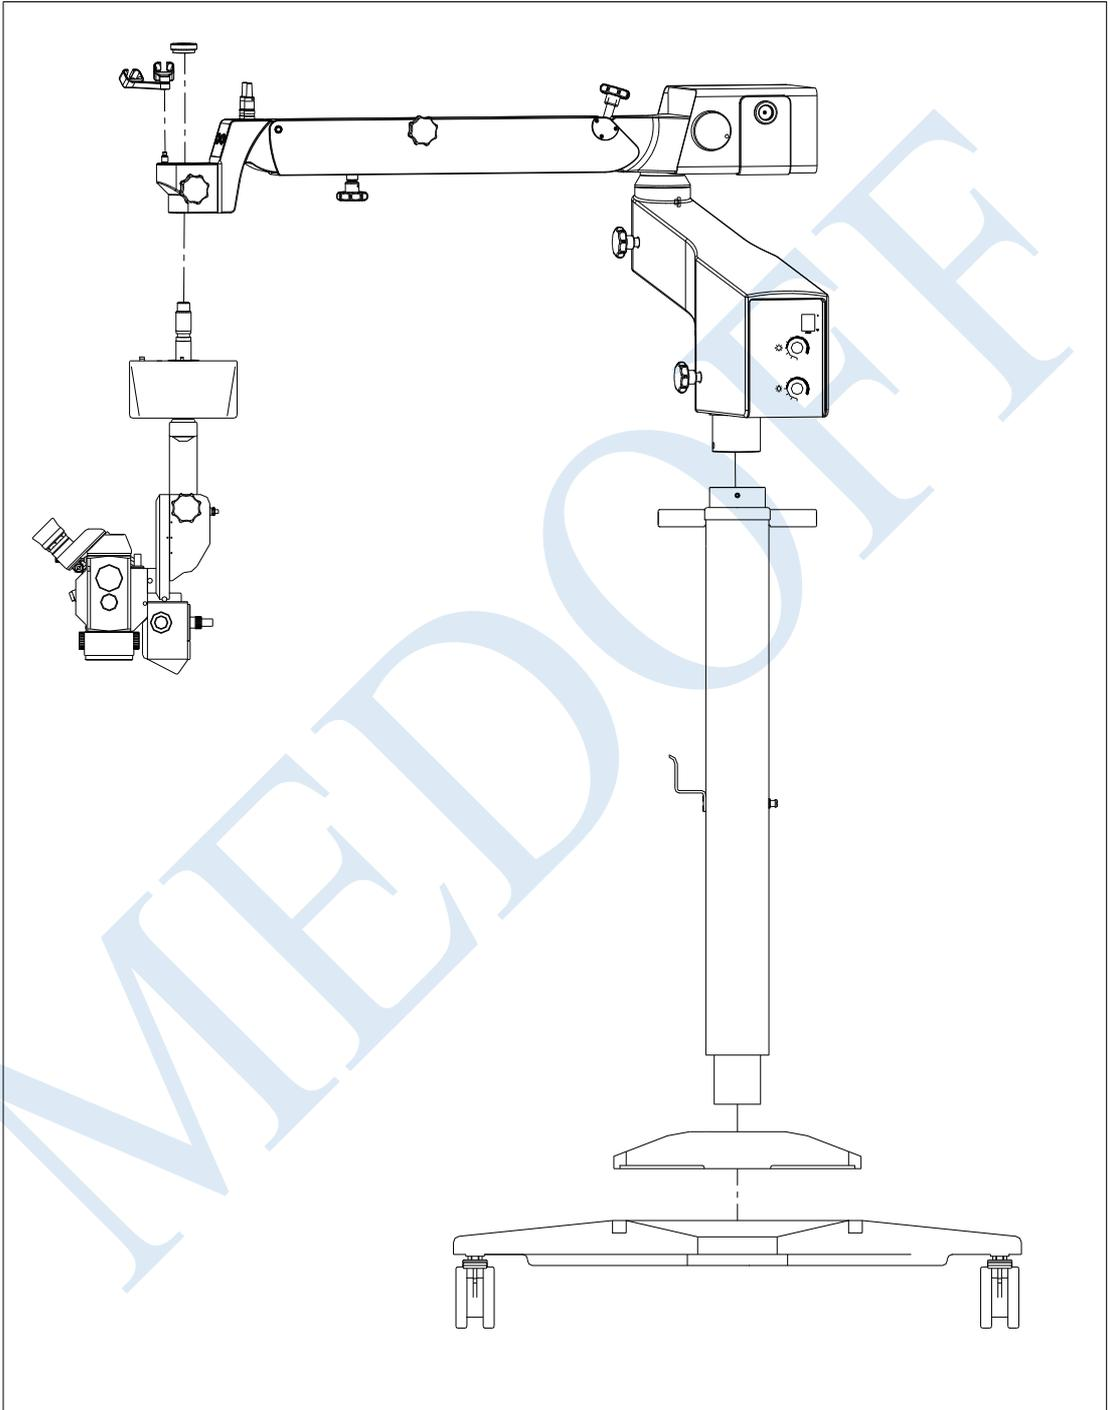

Fig.7
3. Pull the plug at one end of the cord through the axial hole from bottom to top. And then pull out the security pin[4] with one hand, and insert the hanging axis of the coordinator into the axial hole with the other hand at the same time. Then release the security pin, so that the pin[4] may spring into the groove. After that, put the fixation nut on the plug, and rotate it firm (indicated in Fig.7).
4. Connect the 8-pin plug[8] of the focusing device with the 8-pin socket[8] of the small arm. The groove inside of the plug should correspond with the gap outside of the socket(indicated in Fig.7).
3. Hold the main body with two hands. Fix the mainbody coattail block into the coattail groove in the focusing device. Then tighten the fixation screw of main body[42](indicated in Fig.7).
2. Take out the main body of the oblique illumination[37] from the package. Hold the main body of the oblique illumination with single hand. Fix the mainbody coattail block into the coattail groove in the focusing device(indicated in Fig.7). Then tighten the fixation screw of the oblique illumination main body[41].